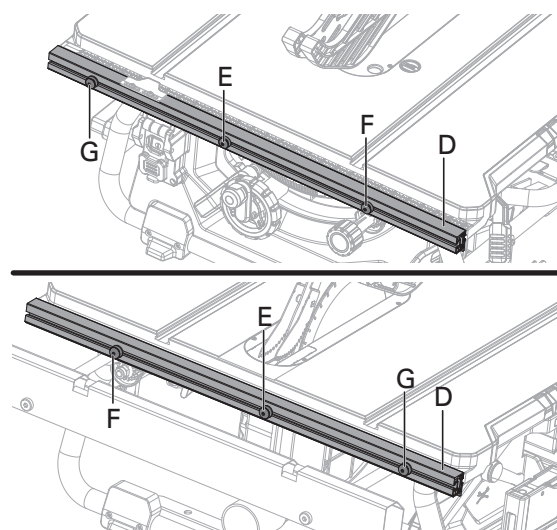

Fig. 12b
- Push down the fence rails lever (A) toward the rear of the saw to unlock it.
- Loosen the rip fence locking knobs (B) on the rip fence.
- Sliding the rip fence (C) to right and swing it up at an angle, then remove the fence from the front and rear fence rails (D).
⚠CAUTION: There are three position screws (E, F, G) on the each front and rear fence rails (D) to attach rip fence. Position screws (E, F) use for rip fence on the right of saw blade. Position screws (G) use for rip fence on the left of saw blade. (Fig. 12b)